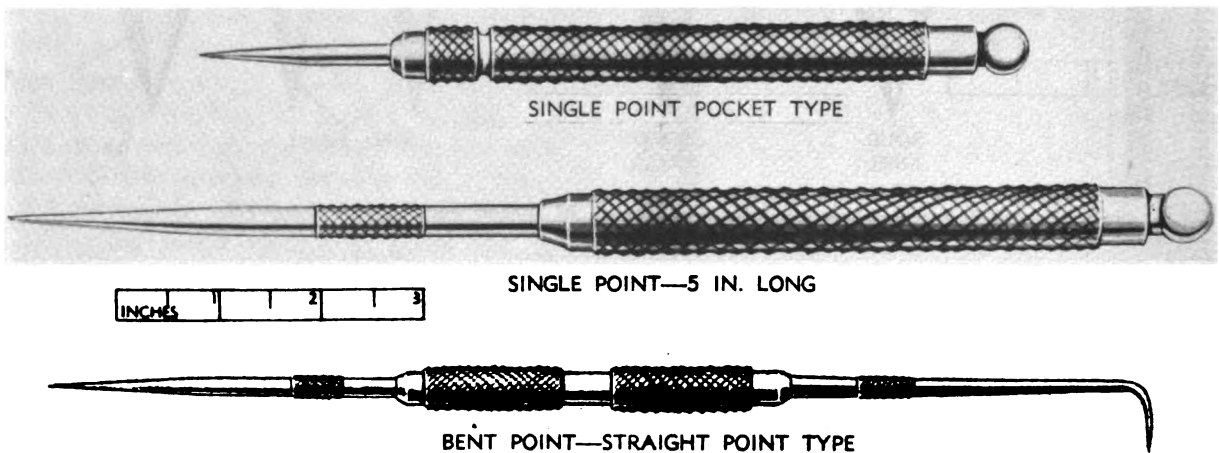

Figure 15. Types of machinist's scribes.
(fig. 15)
a. *Machinist's Scribes.* Machinist's single point pocket-type scribes (fig. 15) have a scribe point made of tempered high grade